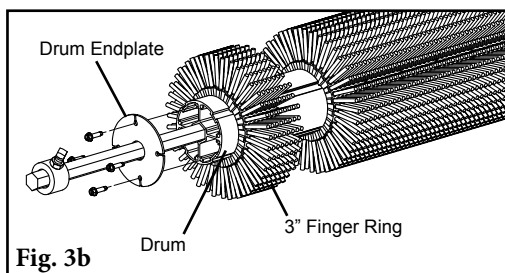

Fig. 3b
- 3b. **Replacing 3" finger segments.** Remove drum endplate, then remove worn finger rings from drum. Clean drum and slide new 3" rubber finger segments onto drum (Fig. 3b). Soapy water can be used to make this easier. Reinstall the endplate.